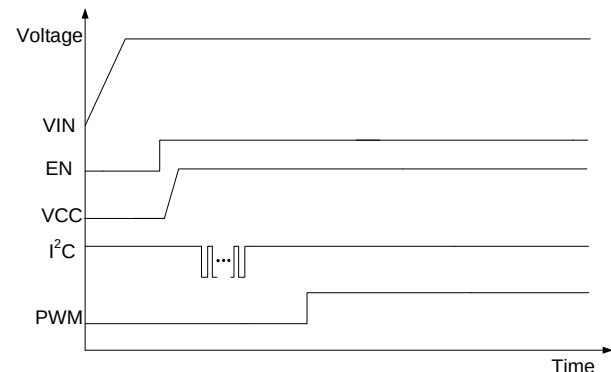

Figure 2: Recommended Power-On Timing
4. PWM dimming signal (see Figure 2). When dimming is done only by the I²C interface, the PWM signal can be ignored.